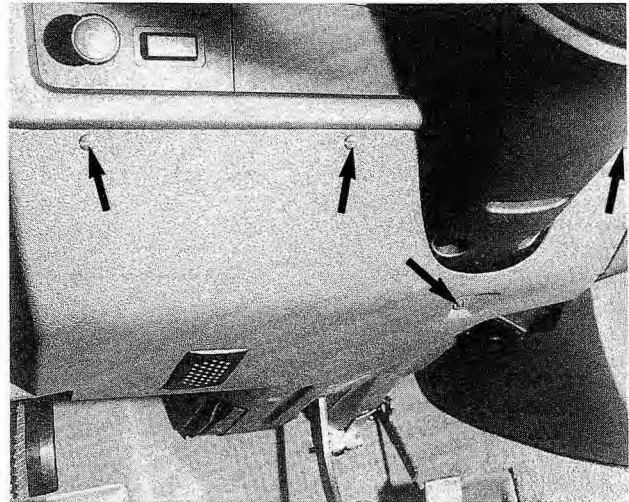

Fig. 4-1. Retaining screws (arrows) to be removed from left-side instrument panel trim.
3. Remove the lower-left instrument panel trim by removing the screws indicated in Fig. 4-1.
2. Remove the lower-left instrument panel trim as shown in Fig. 4-1 above.